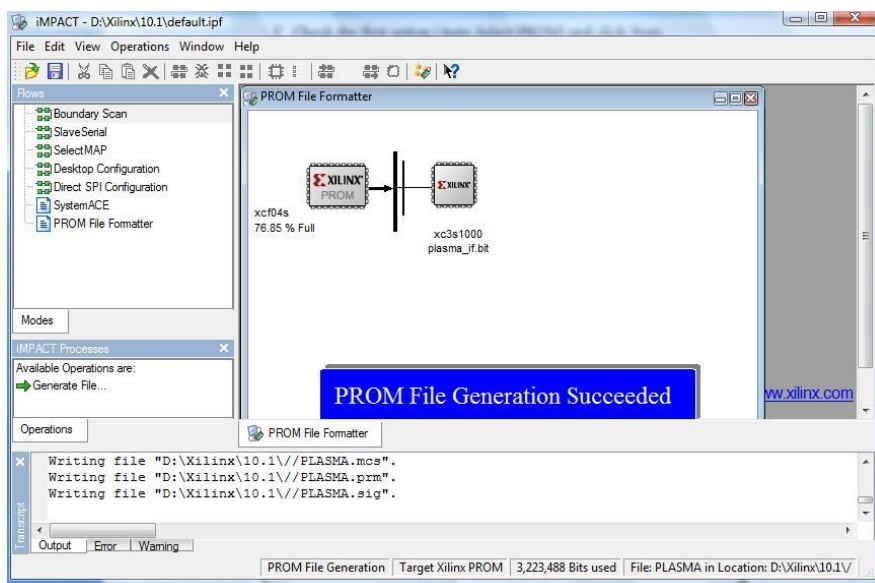

Figure 8 : PROM File Generation Succeeded
- i. In Menu bar, click on the Operations menu and select Generate File (Figure 8).